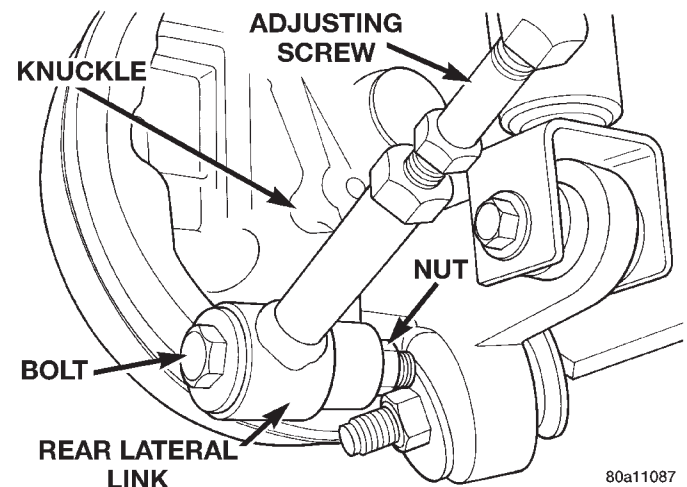

Fig. 33 Rear Lateral Link Attachment To Knuckle
(1) Raise vehicle on jackstands or centered on a frame contact type hoist. See Hoisting in the Lubrication and Maintenance section of this manual, for the required lifting procedure to be used for this vehicle.
(2) Remove the rear wheel and tire assembly from the side of the vehicle requiring lateral link removal.
(3) Remove the nut, bolt and washer attaching the lateral link to the knuckle (Fig. 33).
adjusting screw toward rear knuckle not rear suspension crossmember (Fig. 33).
(2) Install the lateral link and the attaching bolt nut and washer at rear knuckle (Fig. 33).
(3) Torque both lateral link attaching bolts to 95 N·m (70 ft. lbs.).
(4) Install wheel and tire assembly on vehicle. Tighten the wheel mounting stud nuts in proper sequence until all nuts are torqued to half specification. Then repeat the tightening sequence to the full specified torque of 129 N·m (95 ft. lbs.).
(5) Lower vehicle to the ground.
(6) Check and reset rear wheel Camber and Toe to specifications if required. Refer to Front And Rear Toe Setting Procedure in the Wheel Alignment Check And Adjustment section in this group of the service manual for the required Toe setting procedure.